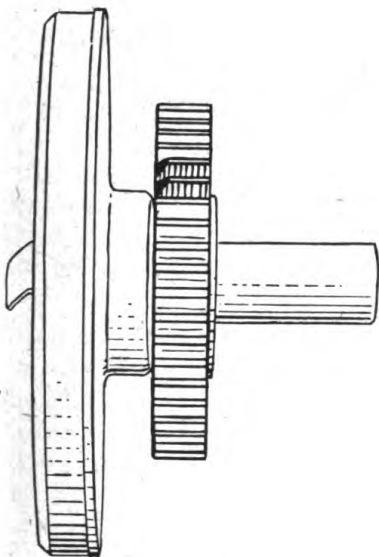

Fig. 47
3. See that the gears are meshed according to the marking on the teeth. (There is a red dot on the steel gear on rotor shaft, directly under one tooth which should mesh between two beveled teeth on distributor gear. On the distributor gear 'canvas base bakelite' there are two teeth beveled off. The bevel on the teeth should be on the side of the gear next to the red distributor disc as shown in Fig. 47. If it is on the side away from the red distributor disc, the gear is on the shaft wrong and should be turned over. Should the gear be on the shaft backwards, or the gears be mismeshed this would cause the T sector on distributor disc to be away from brushes in distributor cap when spark occurs. (This would cause magneto to become corroded and badly burn the distributor disc face.) If gears are meshed correctly, remove distributor disc.
50. Place distributor gear assembly in frame being careful to match gear teeth as marked. Tooth over red dot on steel gear is to be placed between two beveled teeth on fabric gear which are also painted red on the bevels. Bevels should be on side of gear next to distributor disc as shown in Fig. 47. Check again to see teeth are properly matched.